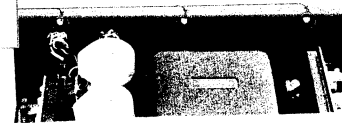

Fig. 2-1. Front panel removal
2. Take out all the knobs, then remove the three screws at front top and bottom of the chassis as shown in Figs. 2-1 and 2-2. This frees the front panel.